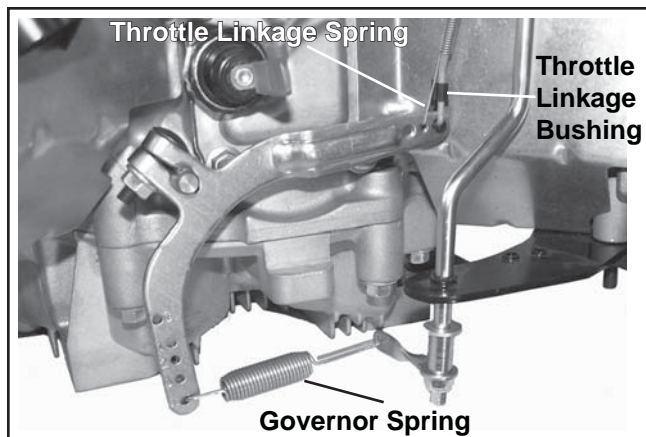

Figure 8-11. Governor Spring and Throttle Linkage.
1. Disconnect the governor spring attached to the governor lever. See Figure 8-11. Note the hole location for reassembly.
2. Disconnect the throttle linkage spring, remove the throttle linkage bushing, and throttle linkage from the governor lever. See Figure 8-11.